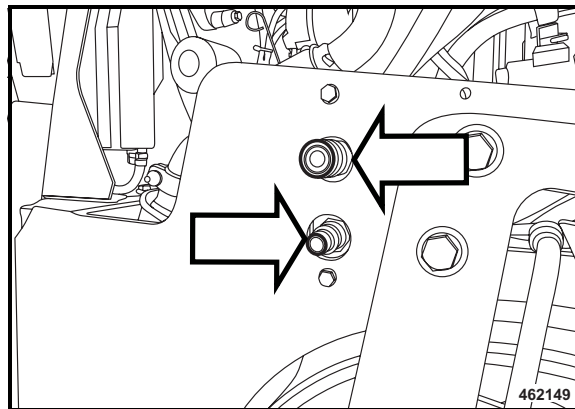

Fig. 93
- Clean the hydraulic couplings (Fig. 93).